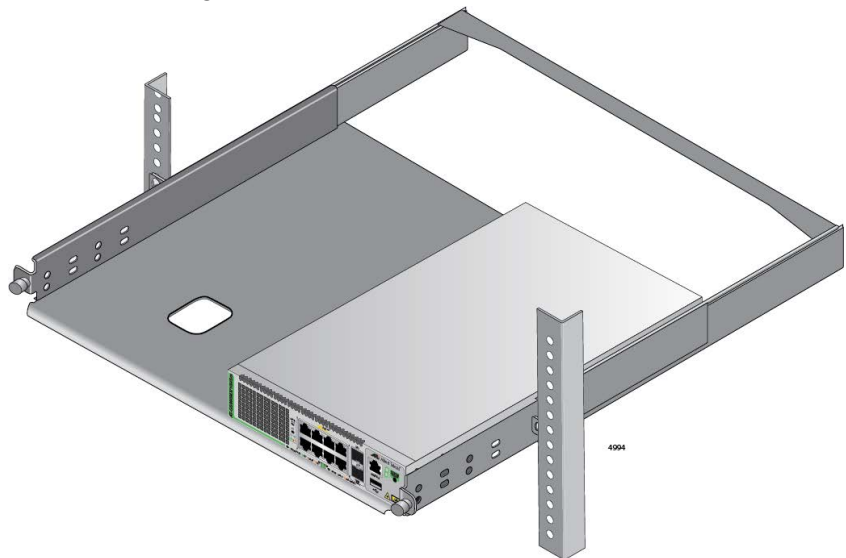

Figure 34. Placing the AT-GS980MX/10HSm Switch in the RKMT-J15 Bracket
- Place the AT-GS980MX/10HSm Switch on one side of the bracket. Align the front panel with the front edge of the bracket. If you are installing only one switch, you may install it on either the left or right side. Refer to Figure 34.